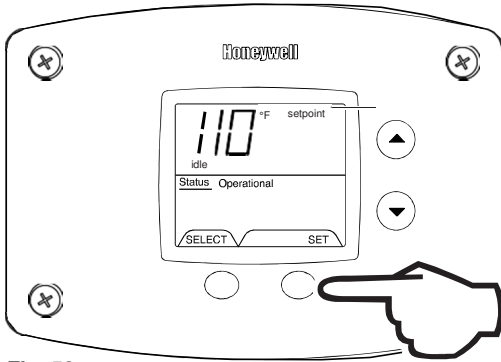

Fig. 52
4. To lower the temperature setpoint, press the 'Temperature Down' button until the desired temperature is shown on the water heater display (Fig. 52).